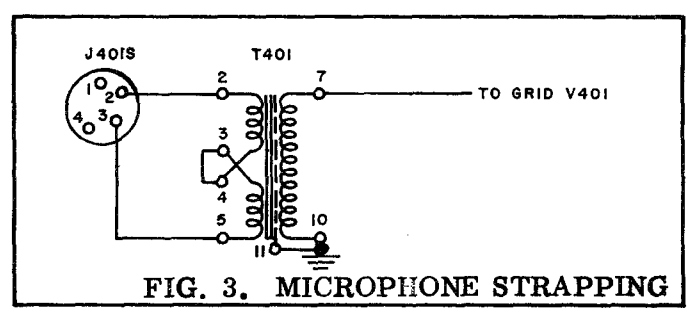

FIG. 3. MICROPHONE STRAPPING
a. Inputs -- The microphone input transformer (T401) is strapped to give optimum response with a 50 ohm microphone. If a 150 to 250 ohm microphone must be used, restrap the transformer as shown in FIG. 3. DO NOT USE A HIGH IMPEDANCE MICROPHONE WITH THIS EQUIPMENT.